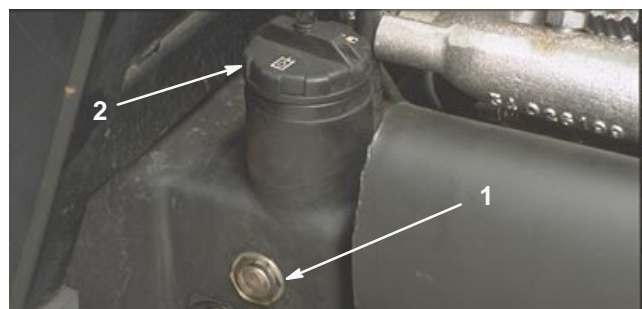

Figure 4
1. Park machine on a level surface and stop engine. Make sure machine has been operated so oil is warm. Release hood latch and open hood. Check level of oil by viewing sight gauge (Fig. 4). If oil is visible in gauge, oil level is sufficient.
2. If oil level is not visible in gauge, remove cap from hydraulic oil reservoir (Fig. 4) and slowly add high quality hydraulic fluid until level reaches middle (maximum) of sight gauge. **Do not overfill.**